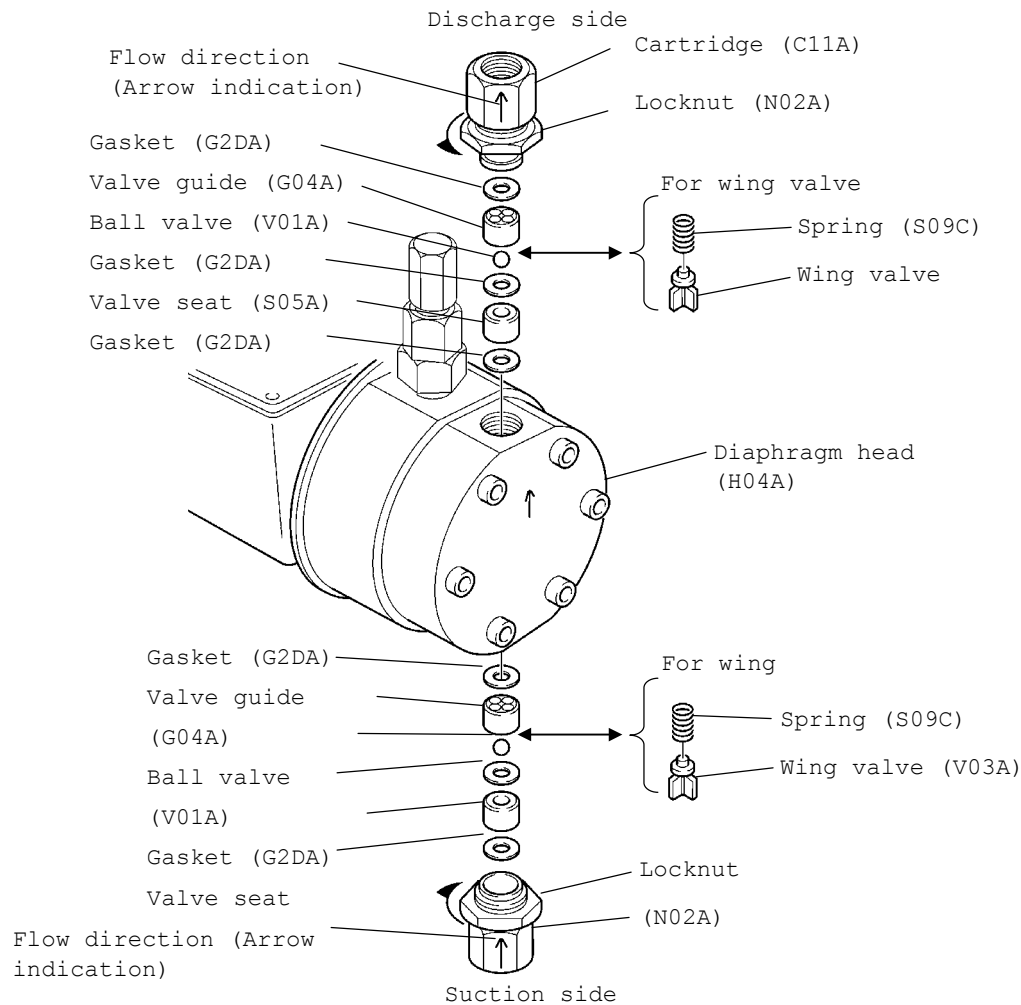

Fig. 7-5 Disassembly of cartridge assembly
- (1) When mounting parts of the cartridge, make sure that the position of each part and the direction of the valve seat correspond to those shown in Fig. 7-5 and in the cross section drawing.
- (2) When mounting the cartridge on the diaphragm head, confirm that the arrow marks, which are marked on both units, are aligned. Be sure to insert the gasket between the diaphragm head and the cartridge. Refer to Fig. 7-5.
- (3) After completion of valve reassembly, be sure to tighten the lock nut. Refer to Fig. 7-5.